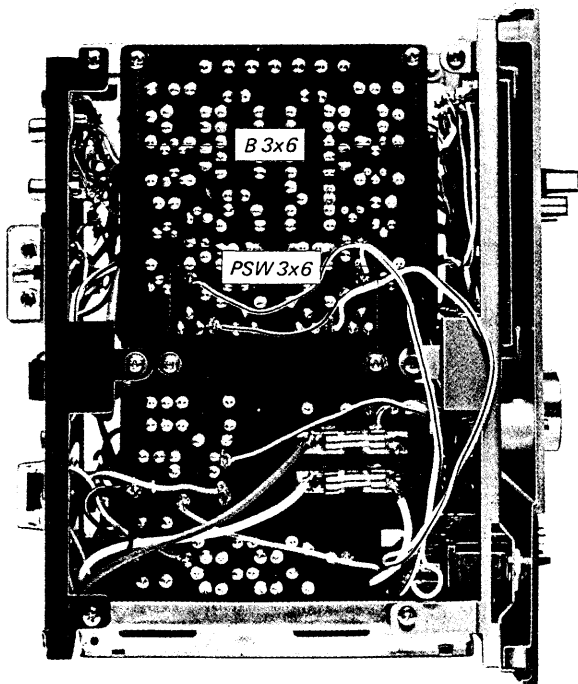

Fig. 2-8. Power amplifier/power supply board removal
5. Remove the four screws shown in Fig. 2-8.